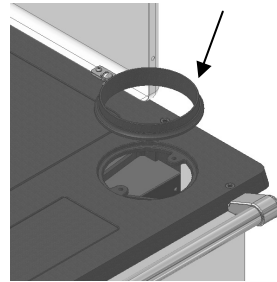

Fig. 1
**COLLAR EXHAUST FUMES ASSEMBLY Fig.1**